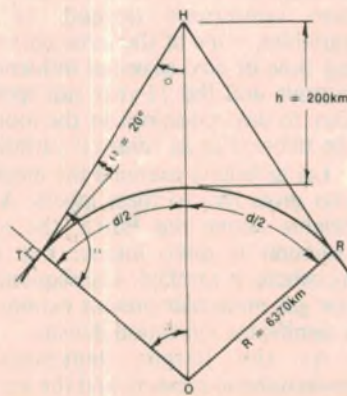

Fig. 10
The virtual height is, however, used in calculating the transmission path between two stations. In Fig. 10, the transmission path between transmitter (T) and receiver (R), as measured along the surface of the Earth, is shown as "d". θ is the angle made by the antenna main beam at the point T, h is the virtual height, and R the radius of the Earth.